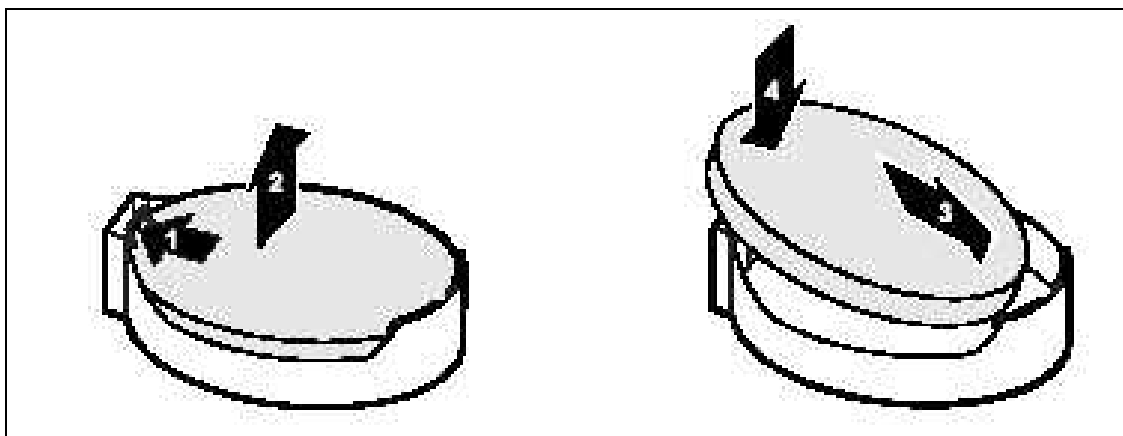

Fig. 56: Replacing the lithium battery
3. Press the locking lug in the direction of the arrow (1/Fig. 56 / p. 100); the battery jumps slightly out of the holder (2/Fig. 56 / p. 100).
5. Push the new lithium battery of the identical type into the holder (3/Fig. 56 / p. 100) and press down on it until it engages (4/Fig. 56 / p. 100).